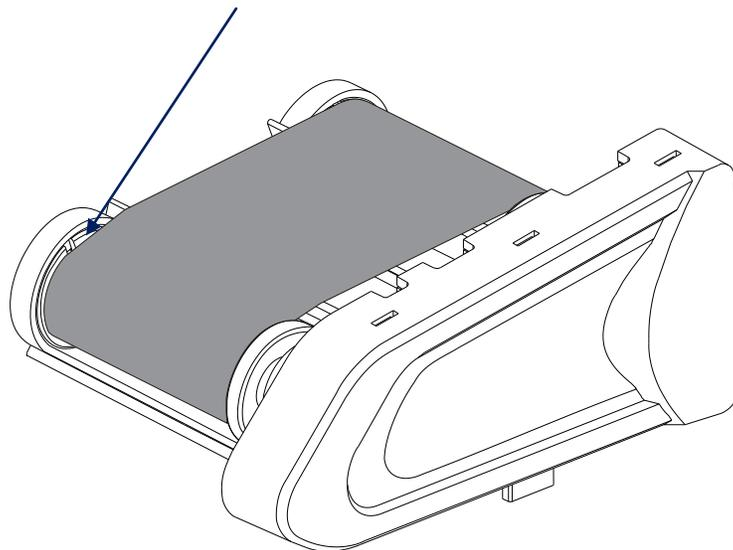

Figure 2-8
5. Turn the Guide Wheel on the left side of the core to smooth out the ribbon (Figure 2-8).